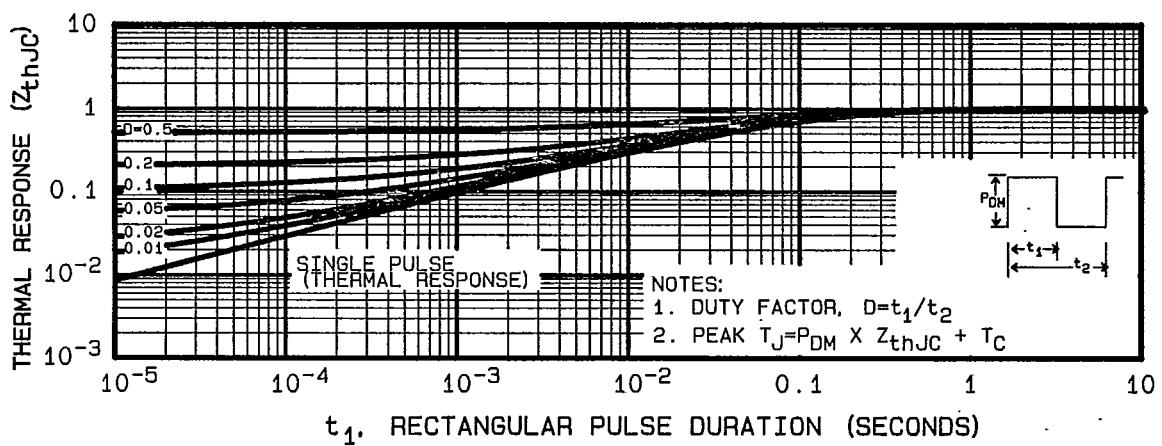

Fig. 5 — Maximum Effective Transient Thermal Impedance, Junction-to-Case Vs. Pulse Duration
① Repetitive Rating; Pulse width limited by maximum junction temperature (see figure 5). Refer to current HEXFET reliability report
③ $I_{SD} \leq 8.0\text{A}$, $dI/dt \leq 100 \text{ A}/\mu\text{s}$, $V_{DD} \leq BV_{DSS}$, $T_J \leq 150^\circ\text{C}$